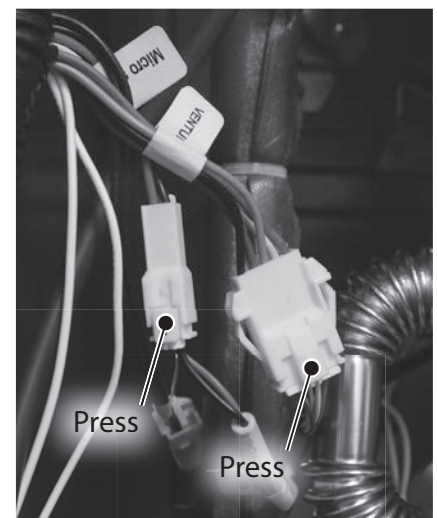

Figure 86 - Locate venturi wire harnesses
**8** Locate the venturi wires (2x) and disconnect them as shown in Figure 86. Wires are labeled "Venturi" and "Micro Switch." These wires are connected at and run through the black cable conduit located on the left side of the water heater cabinet.